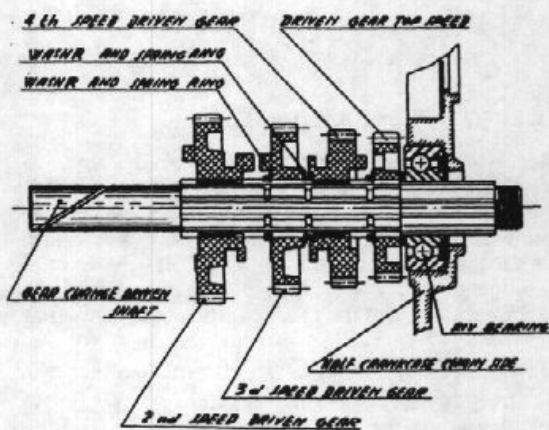

Fig. 72
**Step No. 2.** - Take the layshaft, complete with its previously checked gears, and make certain that the gear-engaging dogs mesh properly and that the gears slide freely (see Fig. 72).